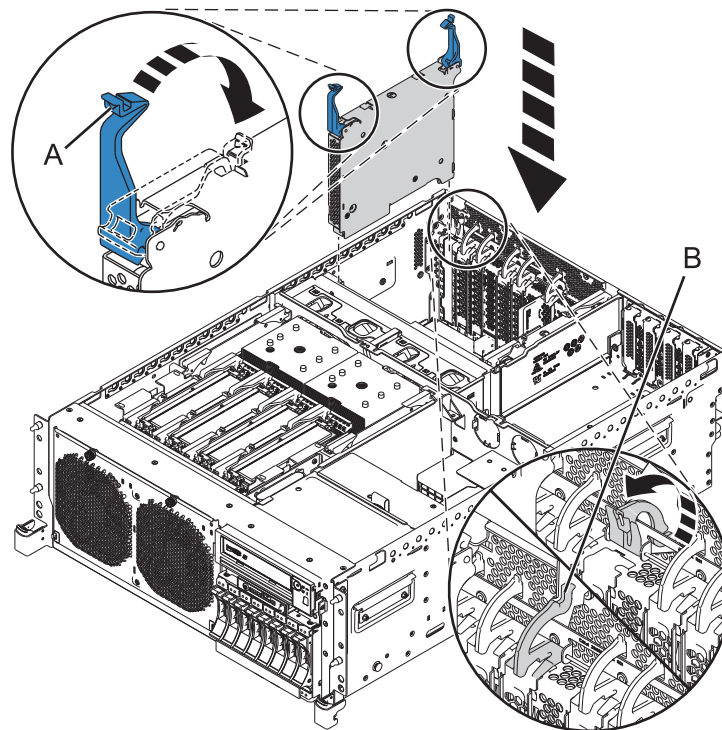

Figure 7. Adapter installation in a rack-mounted system
5. Evenly rotate the latches (A) into the locked position, as shown in Figure 7.
6. Rotate the latch (B) into the closed position to lock the adapter into the adapter slot.